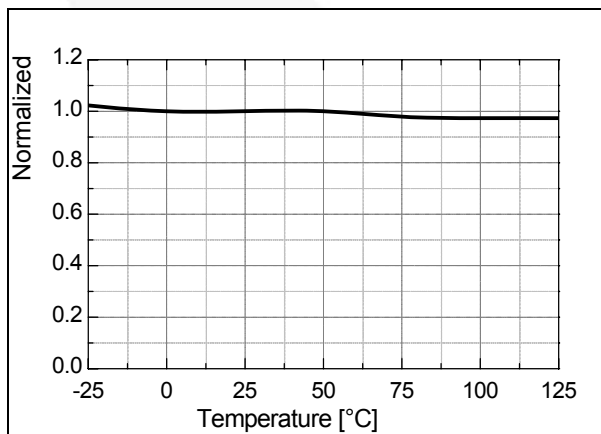

Figure 23. Burst-Mode Low Threshold Voltage ( $V_{burl}$ ) vs.  $T_A$
**2. Feedback Control:** FPS employs current-mode control, as shown in Figure 23. An opto-coupler (such as the FOD817A) and shunt regulator (such as the KA431) are typically used to implement the feedback network. Comparing the feedback voltage with the voltage across the  $R_{sense}$  resistor makes it possible to control the switching duty cycle. When the reference pin voltage of the shunt regulator exceeds the internal reference voltage of 2.5V, the opto-coupler LED current increases, pulling down the feedback voltage and reducing the duty cycle. This typically happens when the input voltage is increased or the output load is decreased.
**2.1 Pulse-by-Pulse Current Limit:** Because current-mode control is employed, the peak current through the SenseFET is limited by the inverting input of PWM comparator ( $V_{FB}^*$ ), as shown in Figure 23. Assuming that the 0.9mA current source flows only through the internal resistor ( $3R + R = 2.8k$ ), the cathode voltage of diode D2 is about 2.5V. Since D1 is blocked when the feedback voltage ( $V_{FB}$ ) exceeds 2.5V, the maximum voltage of the cathode of D2 is clamped at this voltage, clamping  $V_{FB}^*$ . Therefore, the peak value of the current through the SenseFET is limited.